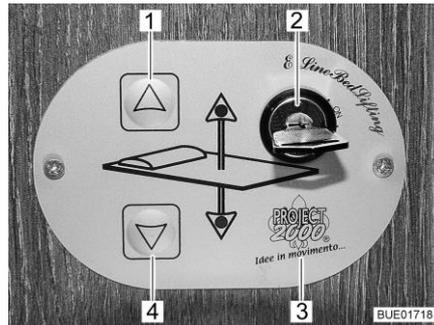

Fig. 141 Control unit
The pull-down bed is raised or lowered using the buttons (Fig. 141,1 and 4) on the control unit (Fig. 141,3). The control unit is protected against unauthorized use with the key switch (Fig. 141,2).
- Turn the key in the key switch (Fig. 141,2) by 90° in a clockwise direction to position "On". The control unit (Fig. 141,3) is activated.
- Press the arrow key (Fig. 141,4) and keep it pressed until the pull-down bed has moved down into the desired position.
- Press the arrow key (Fig. 141,1) and keep it pressed until the pull-down bed has moved down into the final upper position.
If it is no longer possible to move the pull-down bed with the arrow keys (Fig. 141,1 and 4), first of all check the fuses (see section 9.12.1). If the fuses are okay and it is still not possible to move the pull-down bed, the pull-down bed can be operated manually.